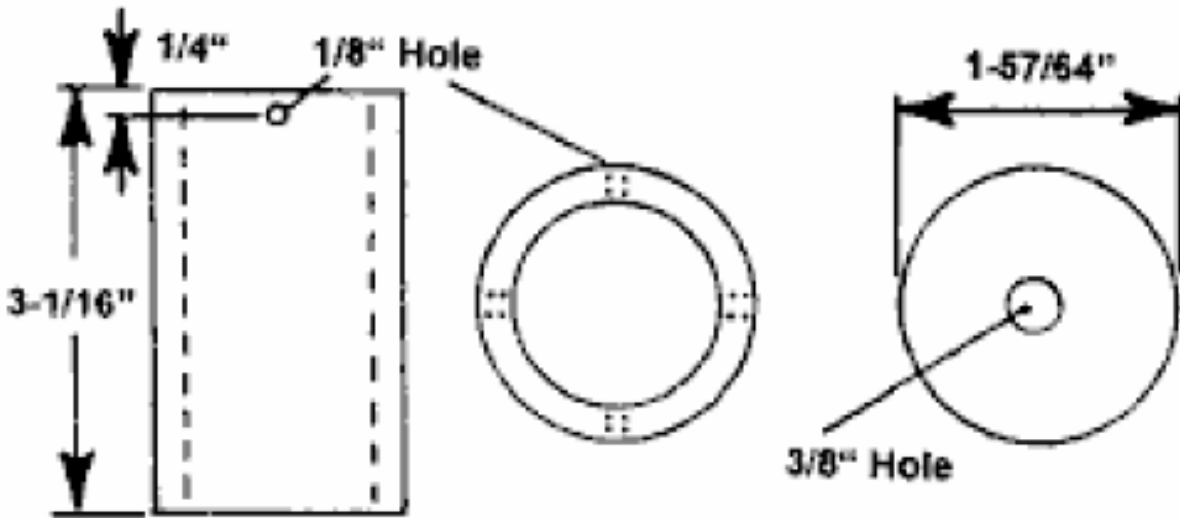

Figure 16: Slosh Shield Details
1. Using a miter box or table saw to assure squareness, cut a 3-1/16" long section from 1-1/2" CVPC pipe. Drill four (4) 1/8" holes into the sides of the pipe, spaced at 90 degree intervals and 1/4" from the edge as shown in Figure 16.